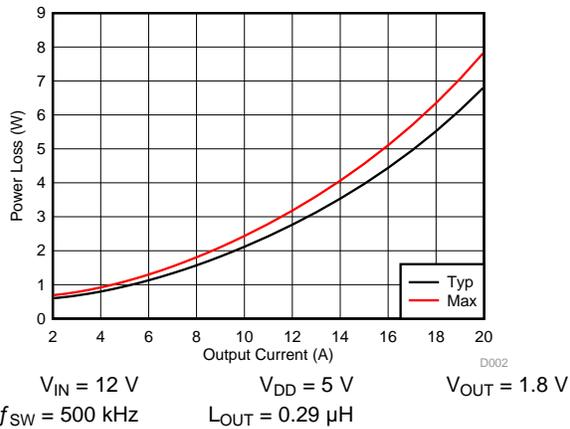
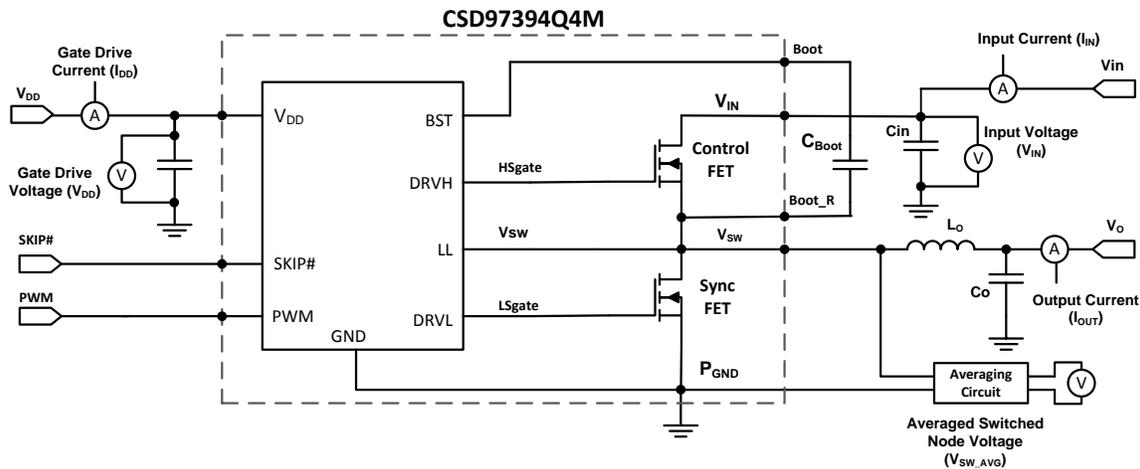

Figure 4. Power Loss vs Output Current
Figure 15. Power Loss Test Circuit
MOSFET centric parameters such as  $R_{DS(ON)}$  and  $Q_{gd}$  are primarily needed by engineers to estimate the loss generated by the devices. In an effort to simplify the design process for engineers, Texas Instruments has provided measured power loss performance curves. Figure 4 plots the power loss of the CSD97394Q4M as a function of load current. This curve is measured by configuring and running the CSD97394Q4M as it would be in the final application (see Figure 15). The measured power loss is the CSD97394Q4M device power loss which consists of both input conversion loss and gate drive loss. Equation 1 is used to generate the power loss curve.
The power loss curve in Figure 4 is measured at the maximum recommended junction temperature of  $T_J = 125^\circ\text{C}$  under isothermal test conditions.
- Typical Power Loss at 10 A = 2.1 W (Figure 4)